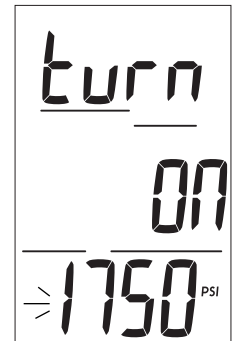

Fig. 25 - Set TURN AL
**Set Turn Pressure Alarm**, information includes (Fig. 25):